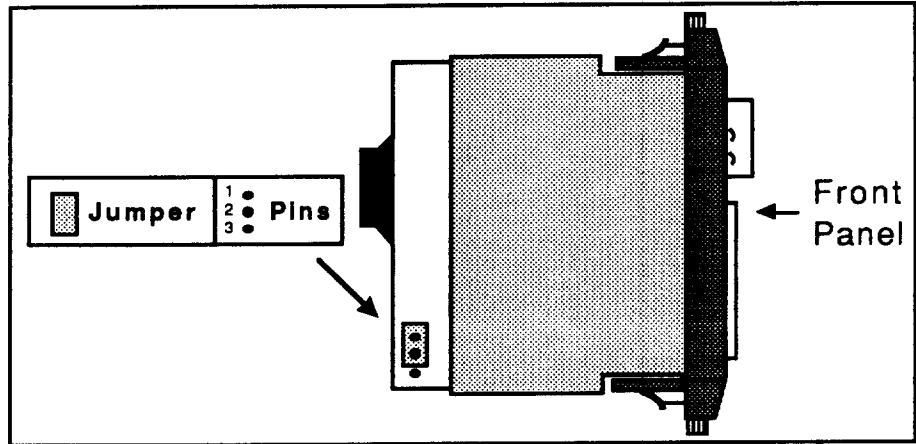

Figure 3-2. Location of Jumper for Standard Card Cage
- In a standard rack system, the jumper (refer to Figure 3-2) must be placed over pins **1 and 2**.
- In an extended PLC cage, the jumper (refer to Figure 3-2) must be placed over pins **2 and 3**.
If you intend to insert the Model 301 into a PLC with an extended cage, you must place the jumper on pins 2 and 3 of the indexer board before inserting the indexer into the port. Figure 3-2 shows the location the jumper. Push in the buttons at the top and bottom of the Model 301's front panel to remove the unit from the rack.